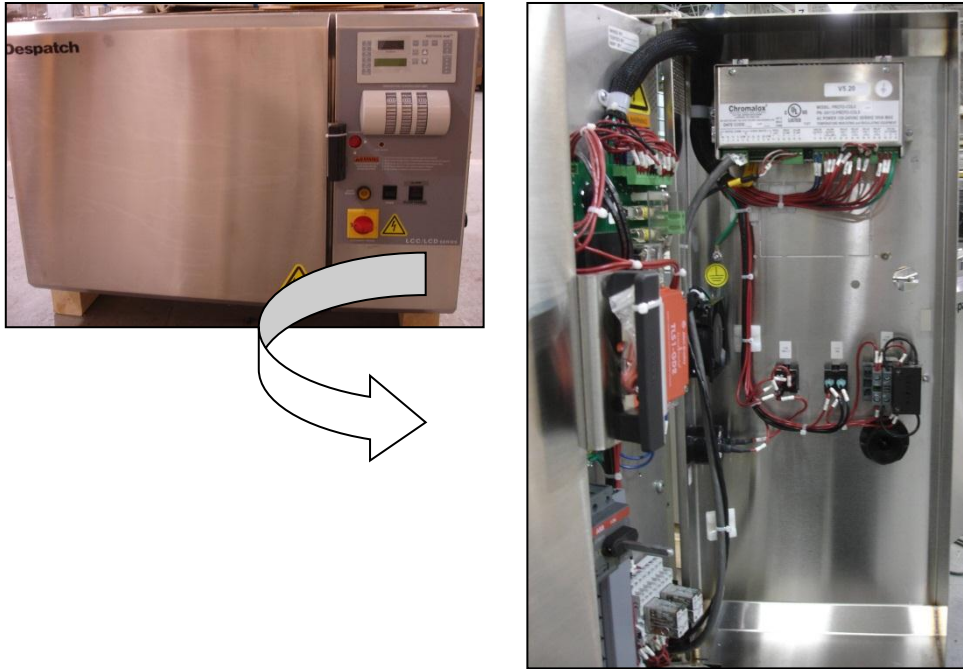

Figure 8. Open the front panel for access.
- Access the conduit and **Disconnect Switch** by opening the front panel (Figure 8).